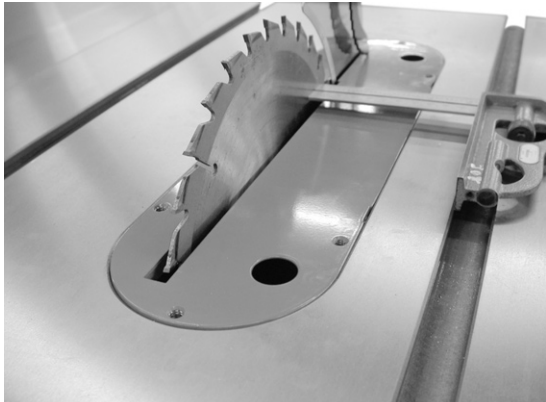

Figure 29
Refer to Figures 29 and 30.
3. Choose a tooth on the far side of the blade (towards the rear) and position the tooth slightly above the table insert. Mark the tooth with a marker. Measure the distance from the side of the blade to the right T-slot edge using a combination square. Make sure to measure between the teeth not on the tooth (Fig. 29).